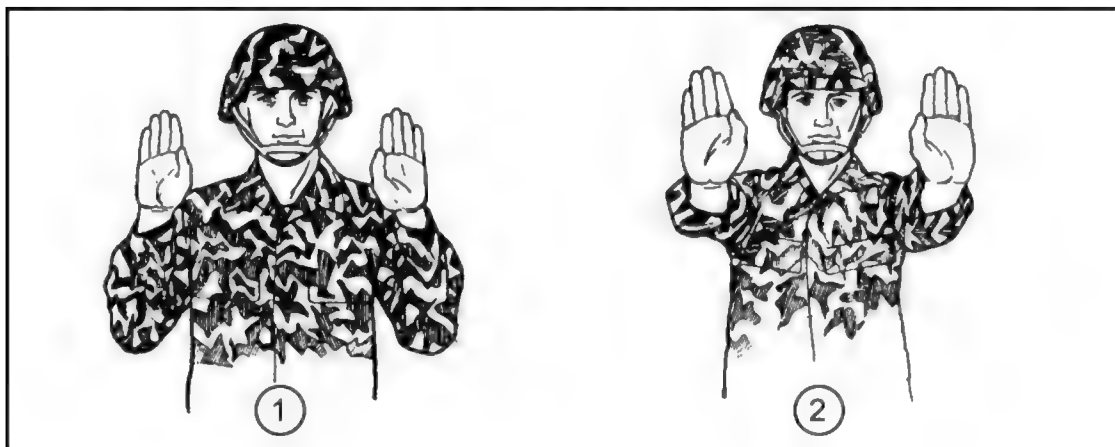

Figure 5-1. GET READY.
(1) The JM starts the command with his arms at his sides and gives the arm-and-hand signal by extending both arms to the front at shoulder level with his palms facing the parachutists.
(2) He begins at shoulder level, fingers and thumbs extended and joined, palms facing toward the parachutists. He extends both arms forward until the elbows lock, with the palms toward the parachutists. He gives the oral command **GET READY**, then returns to the start position with arms at the sides (Figure 5-1).